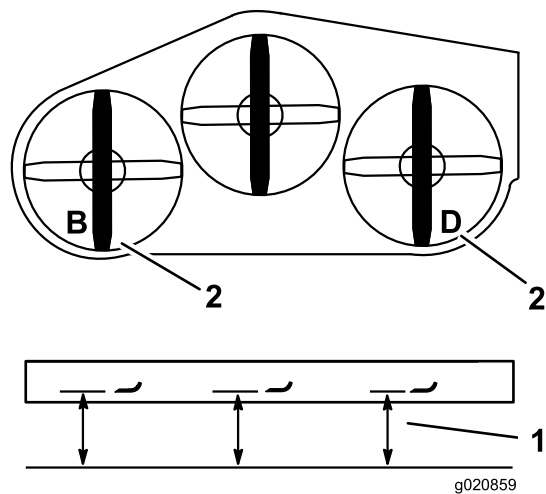

Figure 81
2. Measure the left blade at the **B** location, from a level surface to the cutting edge of the blade tip, and record this measurement (Figure 81).
3. Measure the right blade at the **D** location, from a level surface to the cutting edge of the blade tip, and record this measurement (Figure 81).
Note: The measurement at position **B** needs to be within 3 mm (1/8 inch) of the measurement at position **D** (Figure 81). If it is not correct, proceed to the following steps.